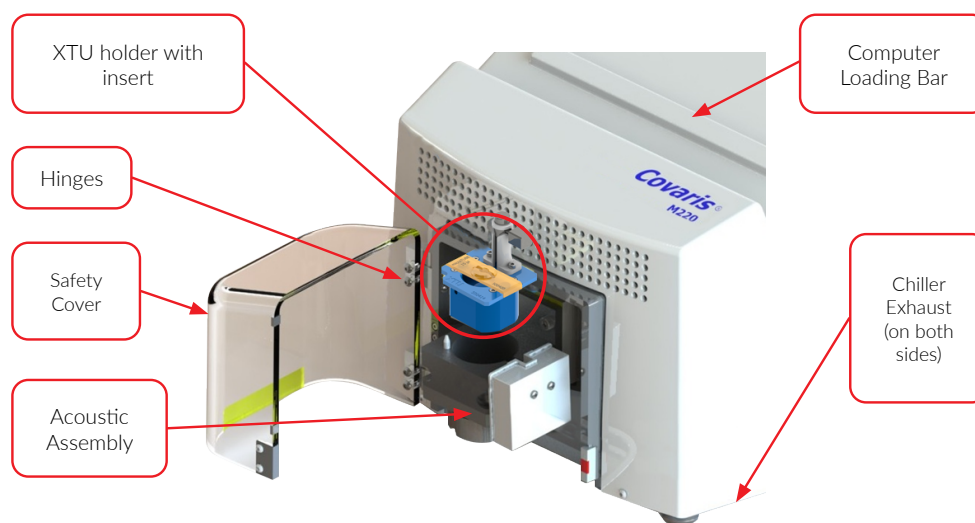

Figure 2.1 A front view of the M220 instrument.
After the instrument is unpacked, please locate the M220 on a flat surface near two power outlets. Use both sides of the base (**Figure 2.1**) to lift the instrument. Do not use the acoustic assembly to lift the instrument.
5. Place the Safety Cover on the hinges (please refer to **Figure 2.1**);